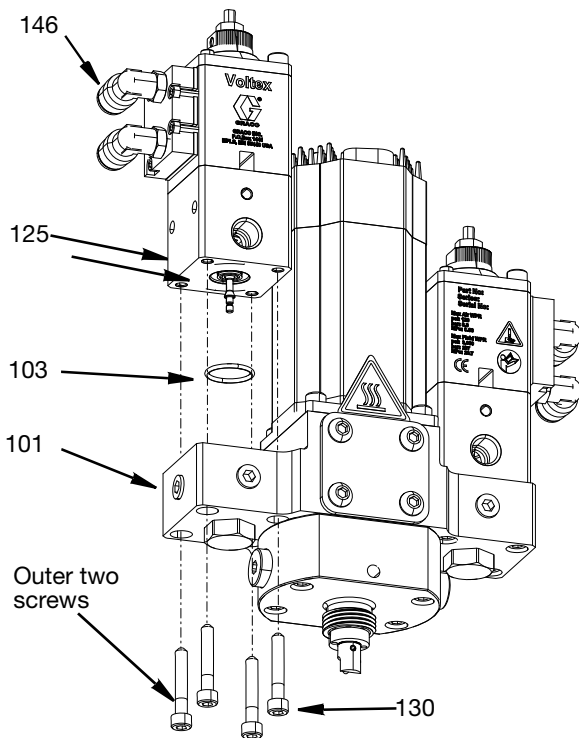

FIG. 46
3. Remove the 5/16" round nylon tubes (141) from the elbow fittings (146).
4. Remove the two outer screws first then the inner two screws (130) holding the valve (125) to the base housing (101) using a 4 mm allen wrench.
5. Remove the O-ring packing (103). See FIG. 46.